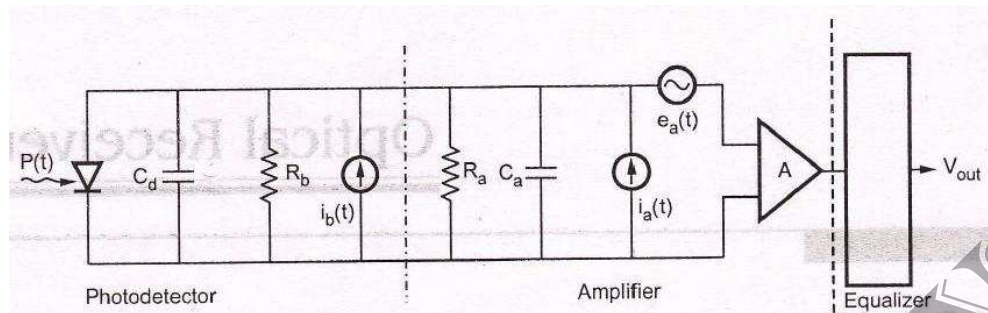

Fig. 5.1.2 Optical receiver configuration
- x Configuration of typical optical receiver is shown in Fig. 5.1.2.